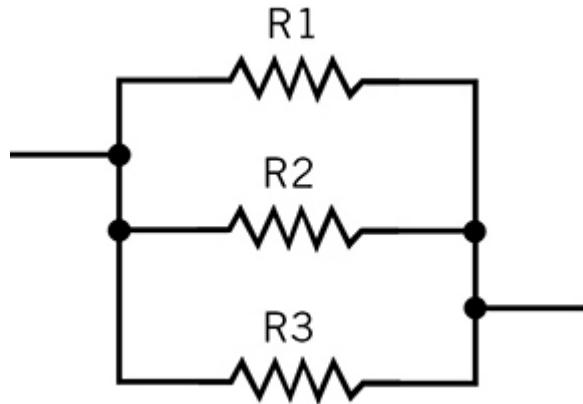
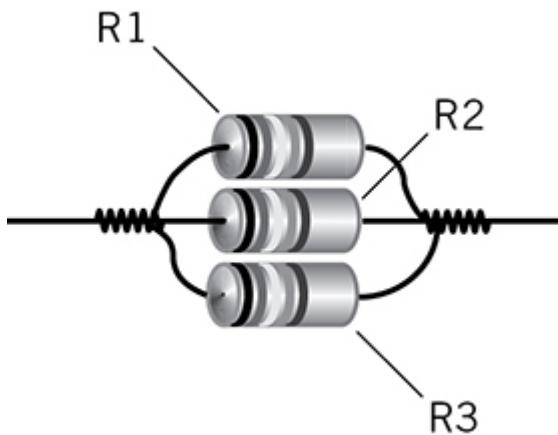

FIG. 4-15 Schematic of three resistors connected in parallel.
FIG. 4-16 Pictorial of three resistors connected in parallel with their leads twisted together.
If you find the foregoing discussion too philosophical, maybe a real-world example will clear things up. In a schematic, a solid line represents a conductor. Maybe that conductor is a wire, but maybe not! It might be a component lead or a *foil run* on a *printed circuit* (PC) board. Whether or not you need a length of wire to connect two components will depend on how close together those components reside in the physical layout. Examine the simple schematic of Fig. 4-15. The circuit contains three resistors, all of which go together in a parallel arrangement. If you take the schematic literally and describe the situation with rigor, you can recite the following facts.
In practice, you can make some or all of these connections by attaching wires to the resistor leads, but if the components lie close enough to each other in the real world, you can use the leads themselves to make the connections. Then Fig. 4-15 will represent the physical arrangement shown pictorially in Fig. 4-16.